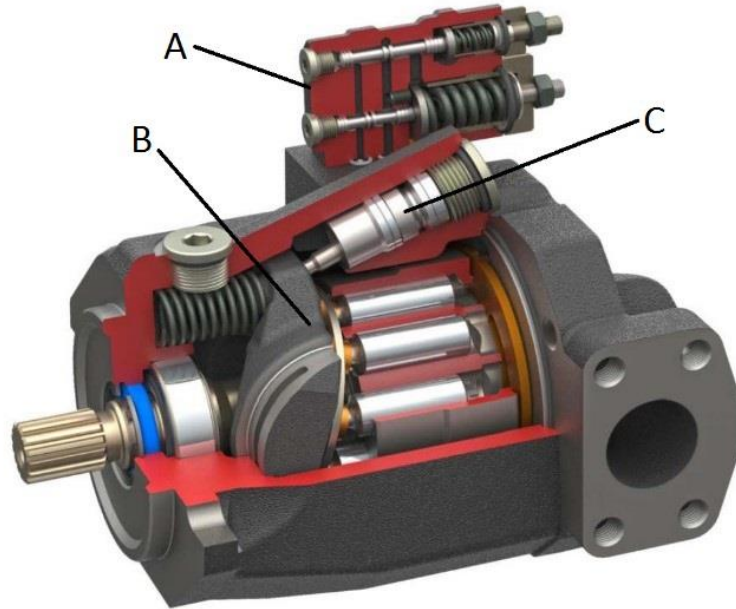

Figure 3
a) Identify the type of hydraulic pump shown in Figure 3.
b) Using Figure 3, identify the components labelled A and B.